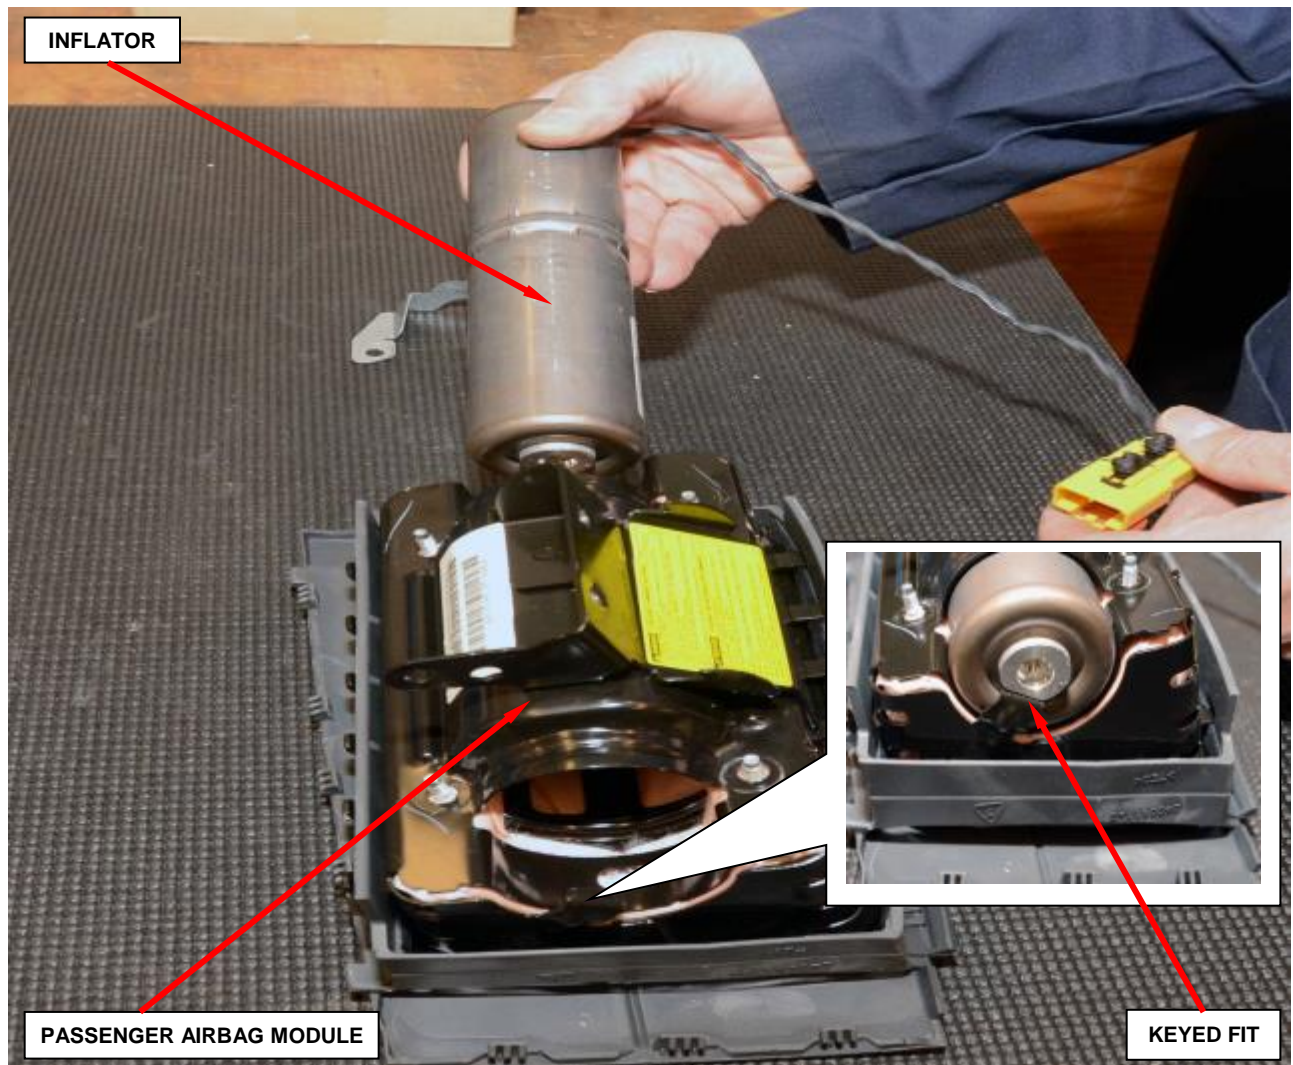

Figure 128 – Passenger Inflator Installation
NOTE: The inflator's key **MUST** line up with the housing's key (Figure 128).
- o. Slide the new inflator into the passenger airbag module (Figure 128).
NOTE: The inflator is keyed to fit into the housing (Figure 128).